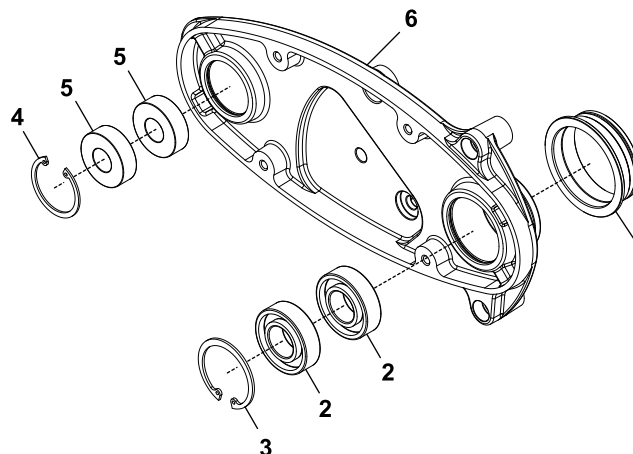

Figure 15
1. Use a press to install the 4 ball bearings (items 2 and 5 in Figure 15) into the reel drive housing (6).
2. Secure the ball bearings with 2 retaining rings (item 3 and 4 in Figure 15) into the reel drive housing (6).